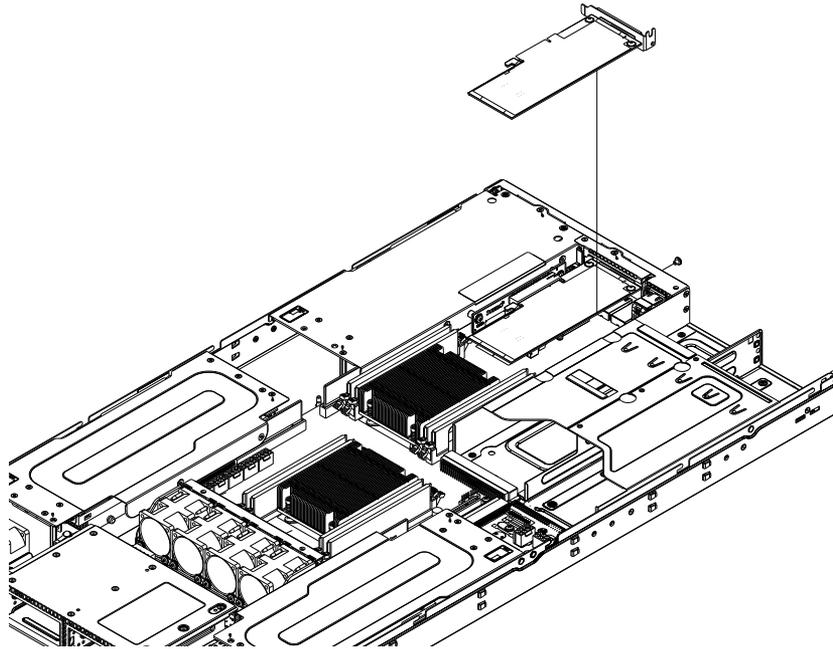

Figure 6-10 Low-profile PCIe Card Remove/Replace Example
6. Secure the rear bracket in the slot with the screw removed in step 3 and connect cables to the add-on card as necessary. See Figure 6-10 on page 58 for an example.